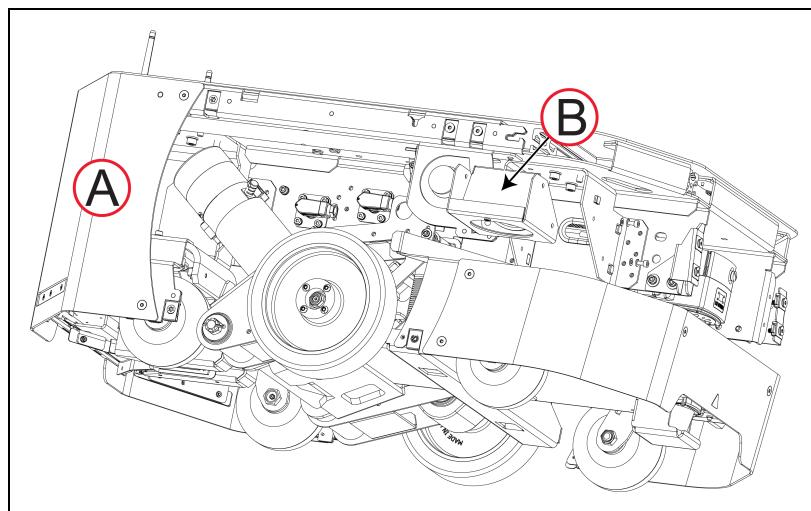

Figure 9-11 LD-250 On its Side (A), Showing the Location of Speaker Assembly (B).
5. It requires at least two people to complete this step. Put down a blanket or other protective surface, and tip the LD-250 on its side (A). Secure the LD-250 so that it cannot move. Find the speaker assembly (B) toward the front of the LD-250 as shown in Figure 9-11.
1. Reconnect the wires to the speaker assembly shown in Figure 9-11. (Terminals are sized to prevent incorrect connection). Place the assembly in the mount.